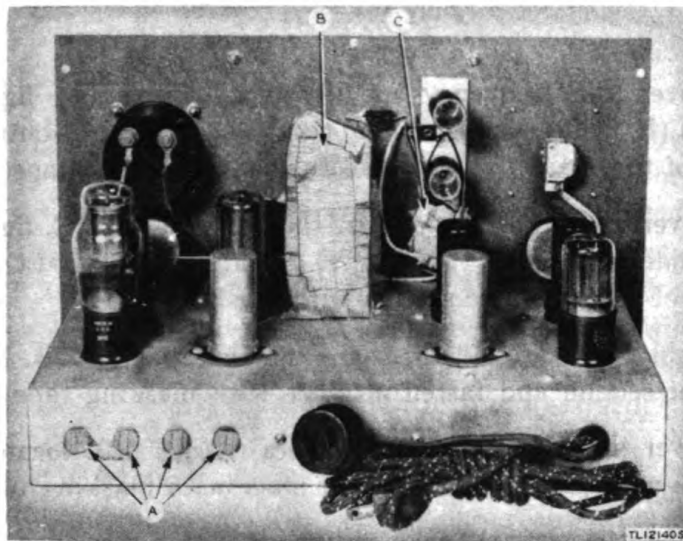
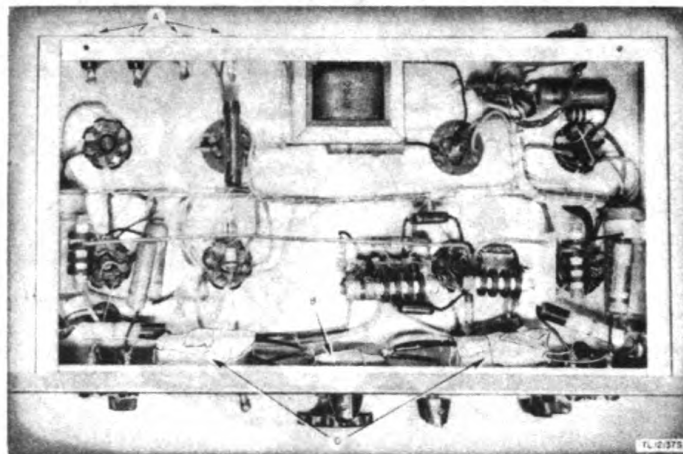

Figure 10. Rear view of oscillator section, showing method of masking.
Figure 11. Bottom view of oscillator section, showing method of masking.
(3) Cover all jacks (A, fig. 10), the band switch (C, fig. 10), the four air-padder capacitors (C, fig. 11), and the HIGH-LOW switch (B, fig. 11) of the oscillator section with masking tape.
(4) Mold paper around the main tuning capacitor (B, fig. 10) of the oscillator section and fasten in place with masking tape.